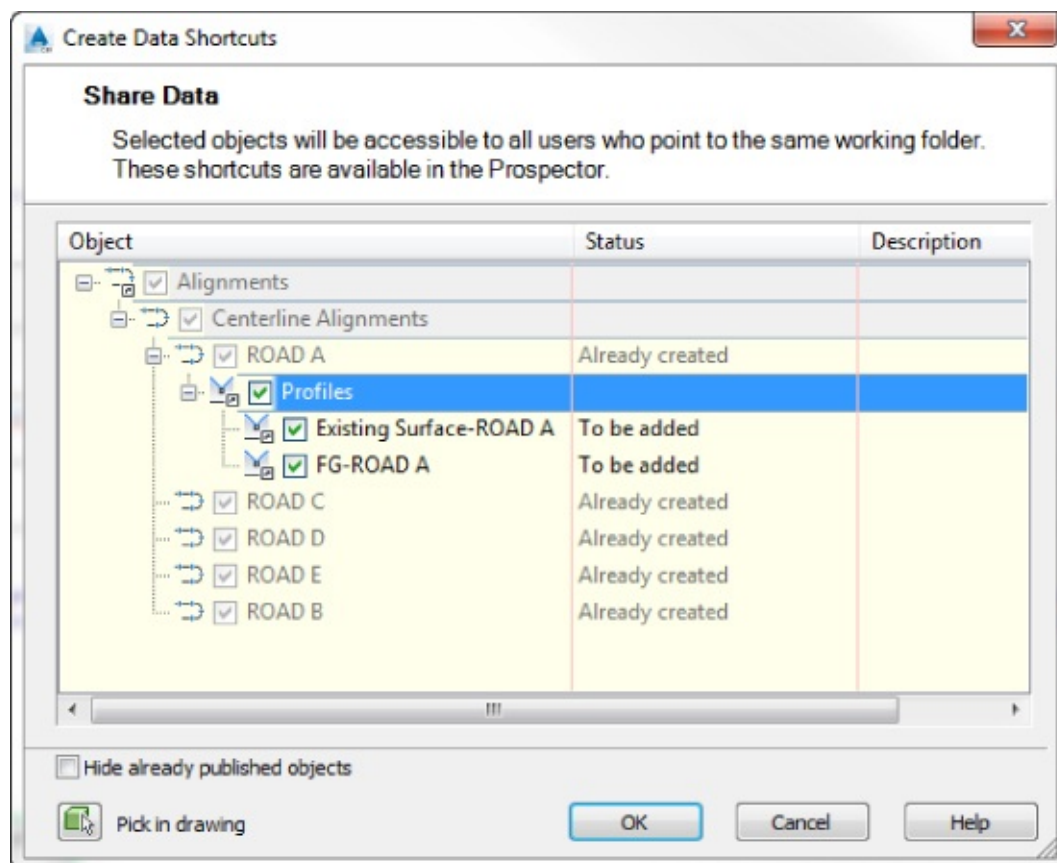

Figure 16.13 Adding additional drawing data to the data shortcut project
- 18. Place a check mark next to Profiles, as shown in Figure 16.13, and click OK.